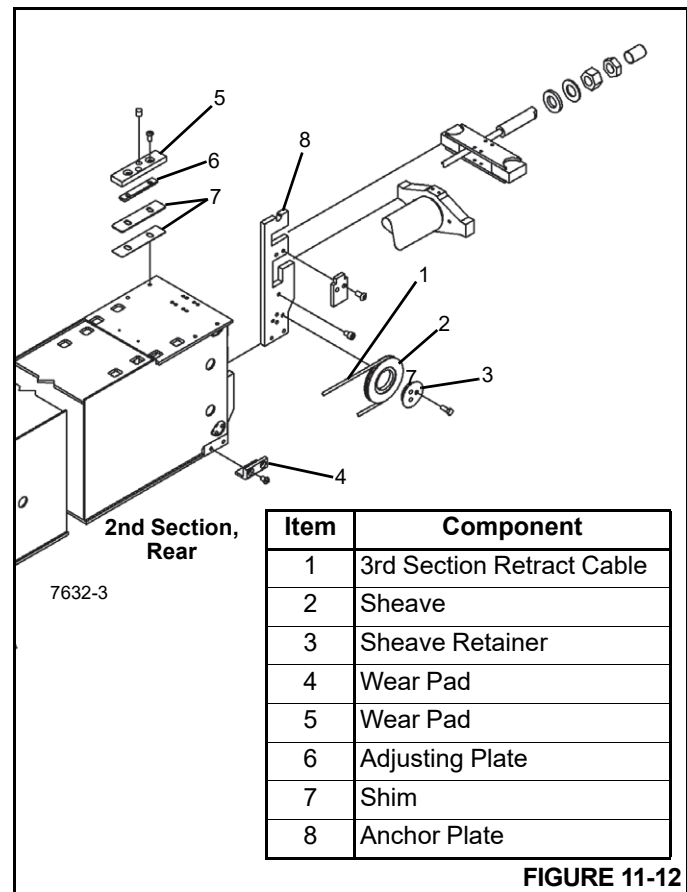

FIGURE 11-12
20. Install the cable sheave (2) onto anchor plate (8) with the sheave retainer (3) (Figure 11-12).
21. Reeve the 3rd section retract cable (1) around the cable sheave (2).